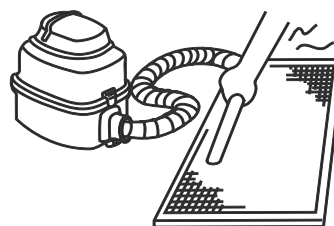

Figure 12.3
- a. The air intake side should face up when using a vacuum cleaner. (Refer to Figure 12.3)